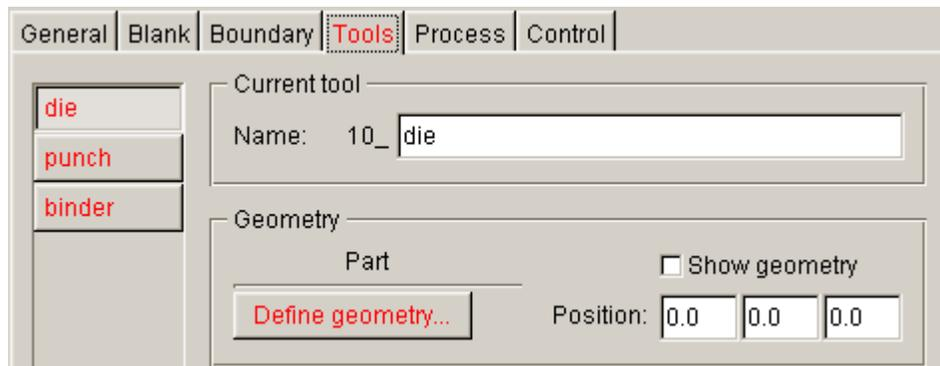

Figure 1.14 Die definition
4. Click the **Define geometry...** button to assign a part as die. See Figure 1.14.